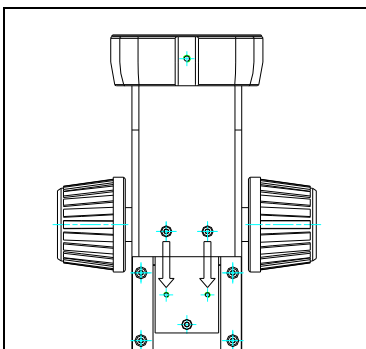

Figure 7
- (3) When use 1.5X or 2X auxiliary lens, please take off 4pcs M3 screws on focus arm and set the focus arm into 4pcs holes and lock. (Fig. 7)